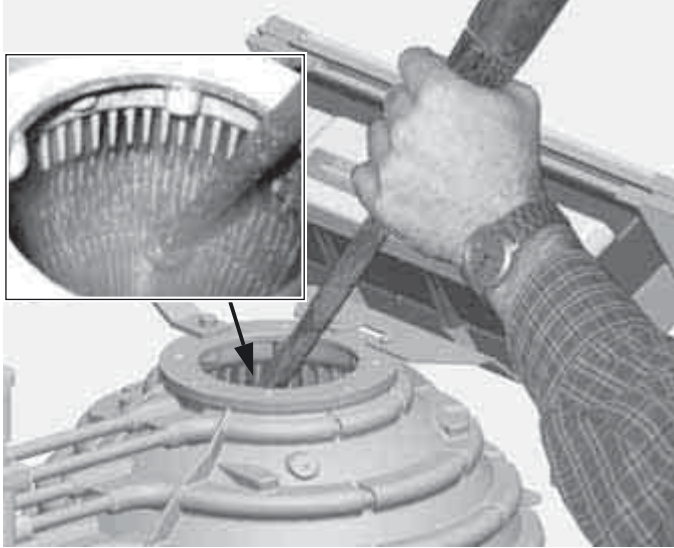

Fig. 9-15 Clean combustion chamber with high pressure cleaner
- Clean combustion chamber through burner flange opening with high pressure cleaner (fig. 9-15).